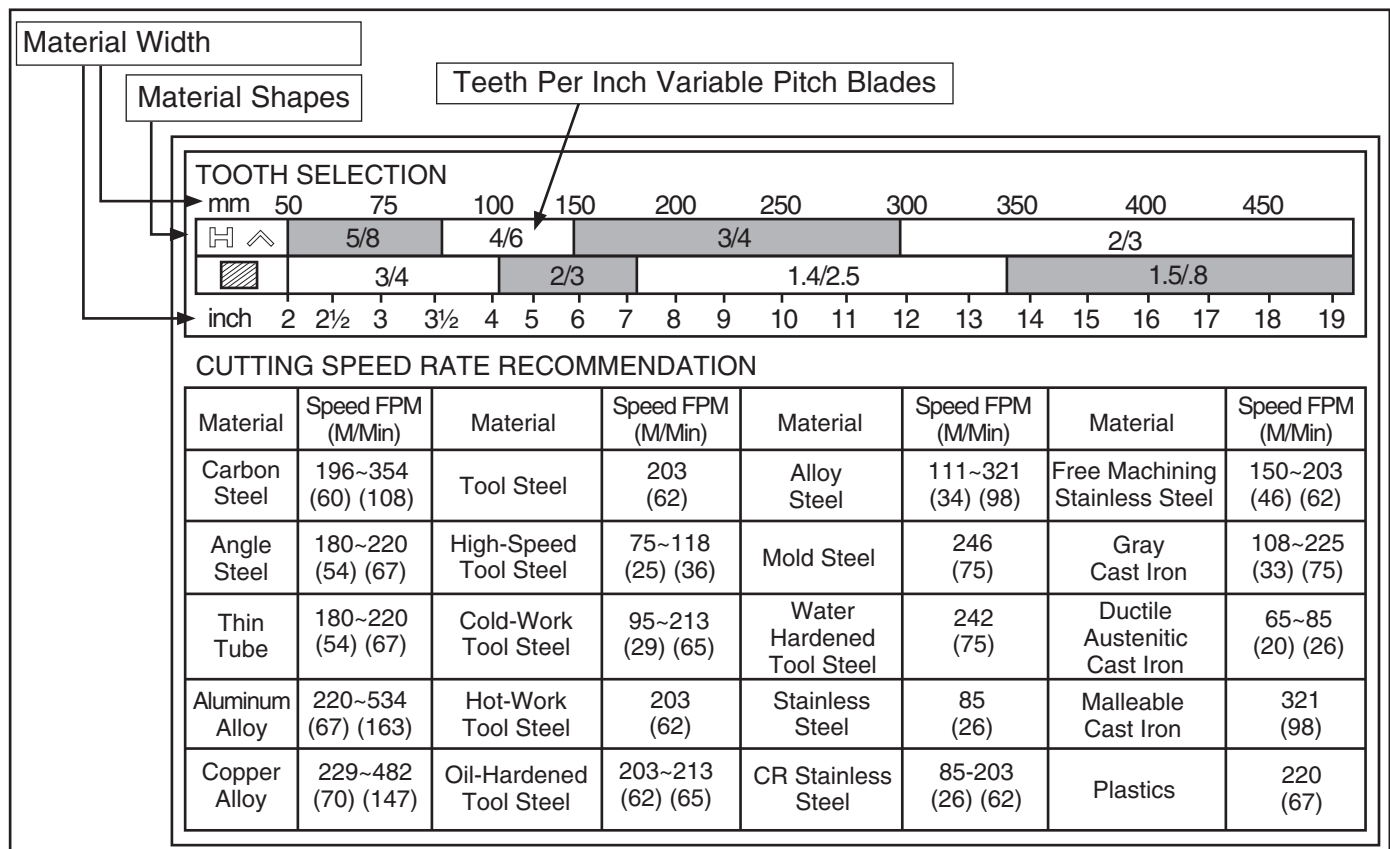

Figure 47. Blade selection and speed chart for metal cutting.
2. Refer to the "Material Width/Diameter" row of the blade selection chart in **Figure 47** and read across to find the workpiece thickness you need to cut.